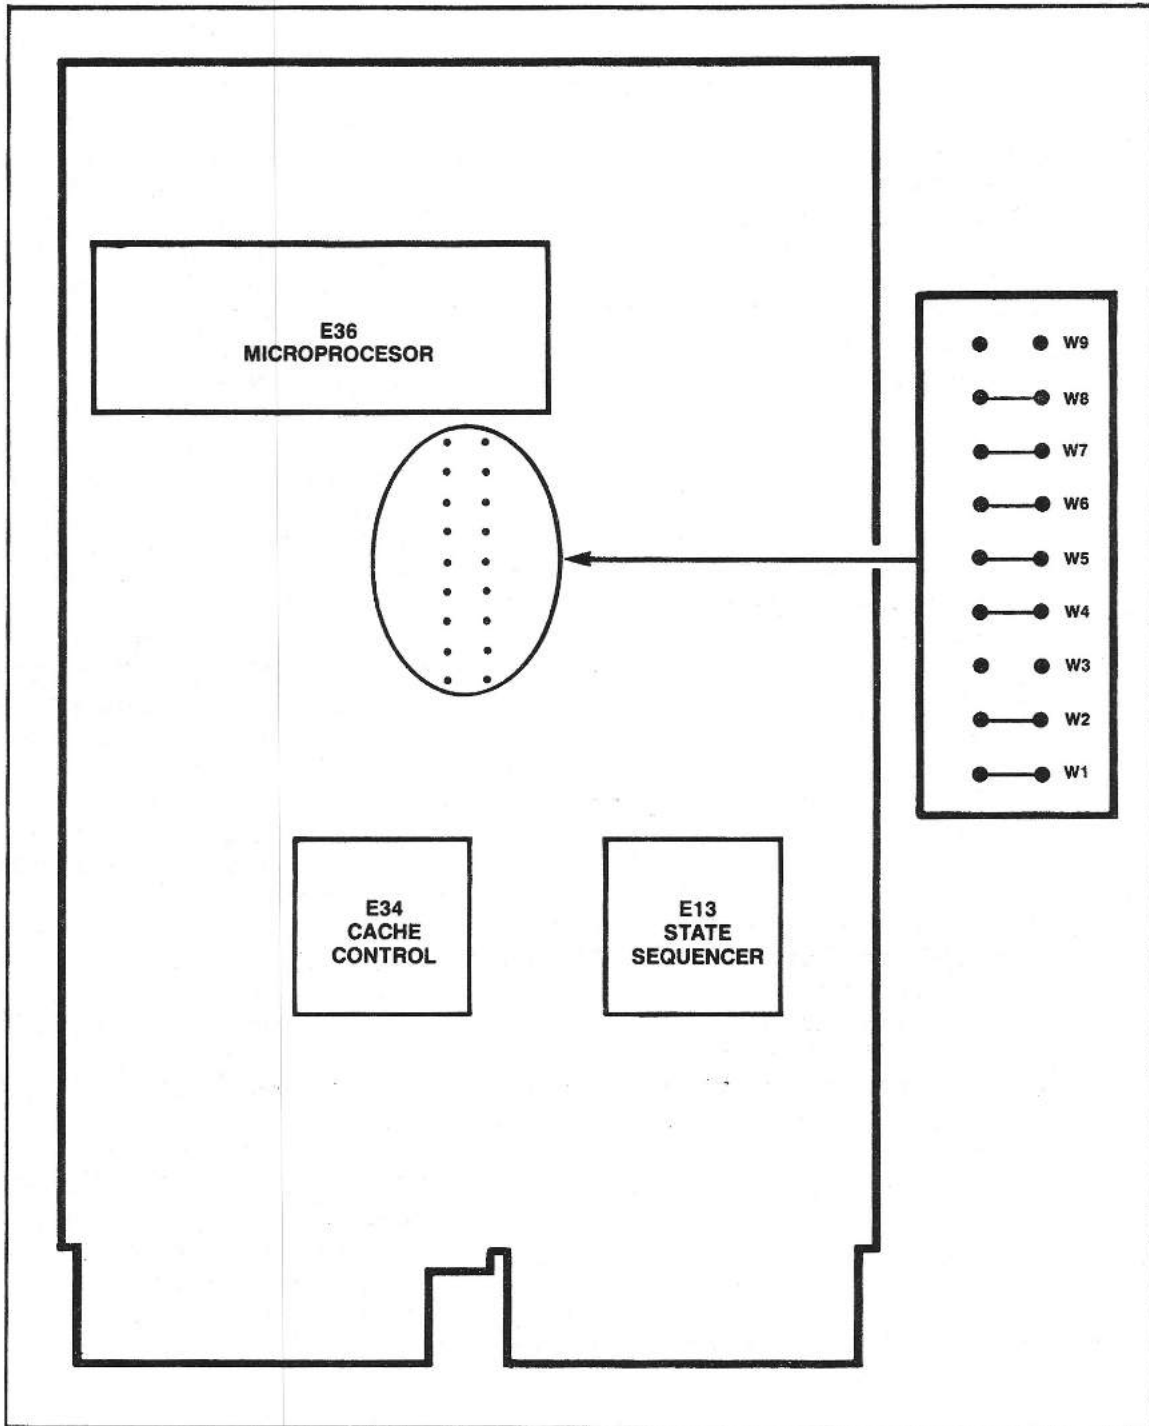

Fig. 4-2 Location of jumper pins on KDJ11-AB (LSI-11/73)
2. KDJ11-AB (LSI-11/73) CPU (Figure 4-2).
The KDJ11-AB has nine pairs of jumper pins that can be configured to implement various user-selectable features. These jumpers, the various configuration options, and the SMS-shipped jumper configuration are listed in Tables 4-6 and 4-7. Refer to Figure 4-2 for locations of jumper pins.
(See Figure 4-2)